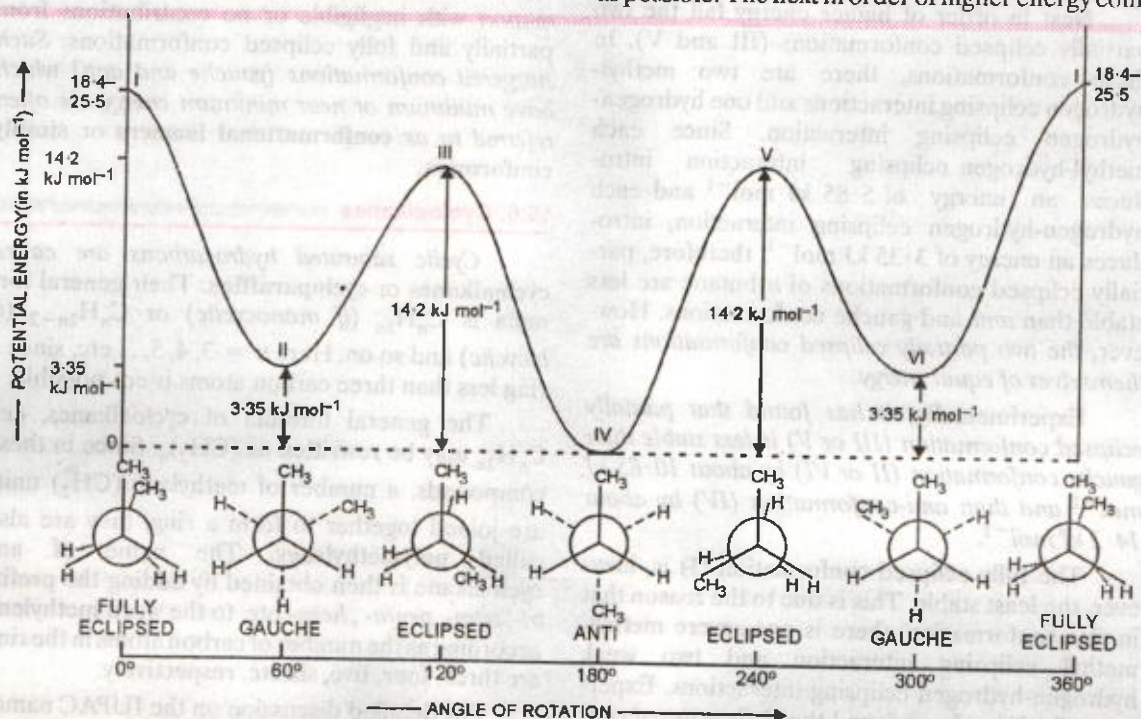

FIGURE 15.12. Changes in potential energy during rotation about $C_2 - C_3$ bond in *n*-butane.
Thus from the above discussion, it follows that *n*-butane has four distinct conformations, i.e., anti-conformation (IV), gauche conformations (II and IV), eclipsed conformations (III and V) and fully eclipsed conformation (I). Their relative potential energies are shown in Fig. 15.12.